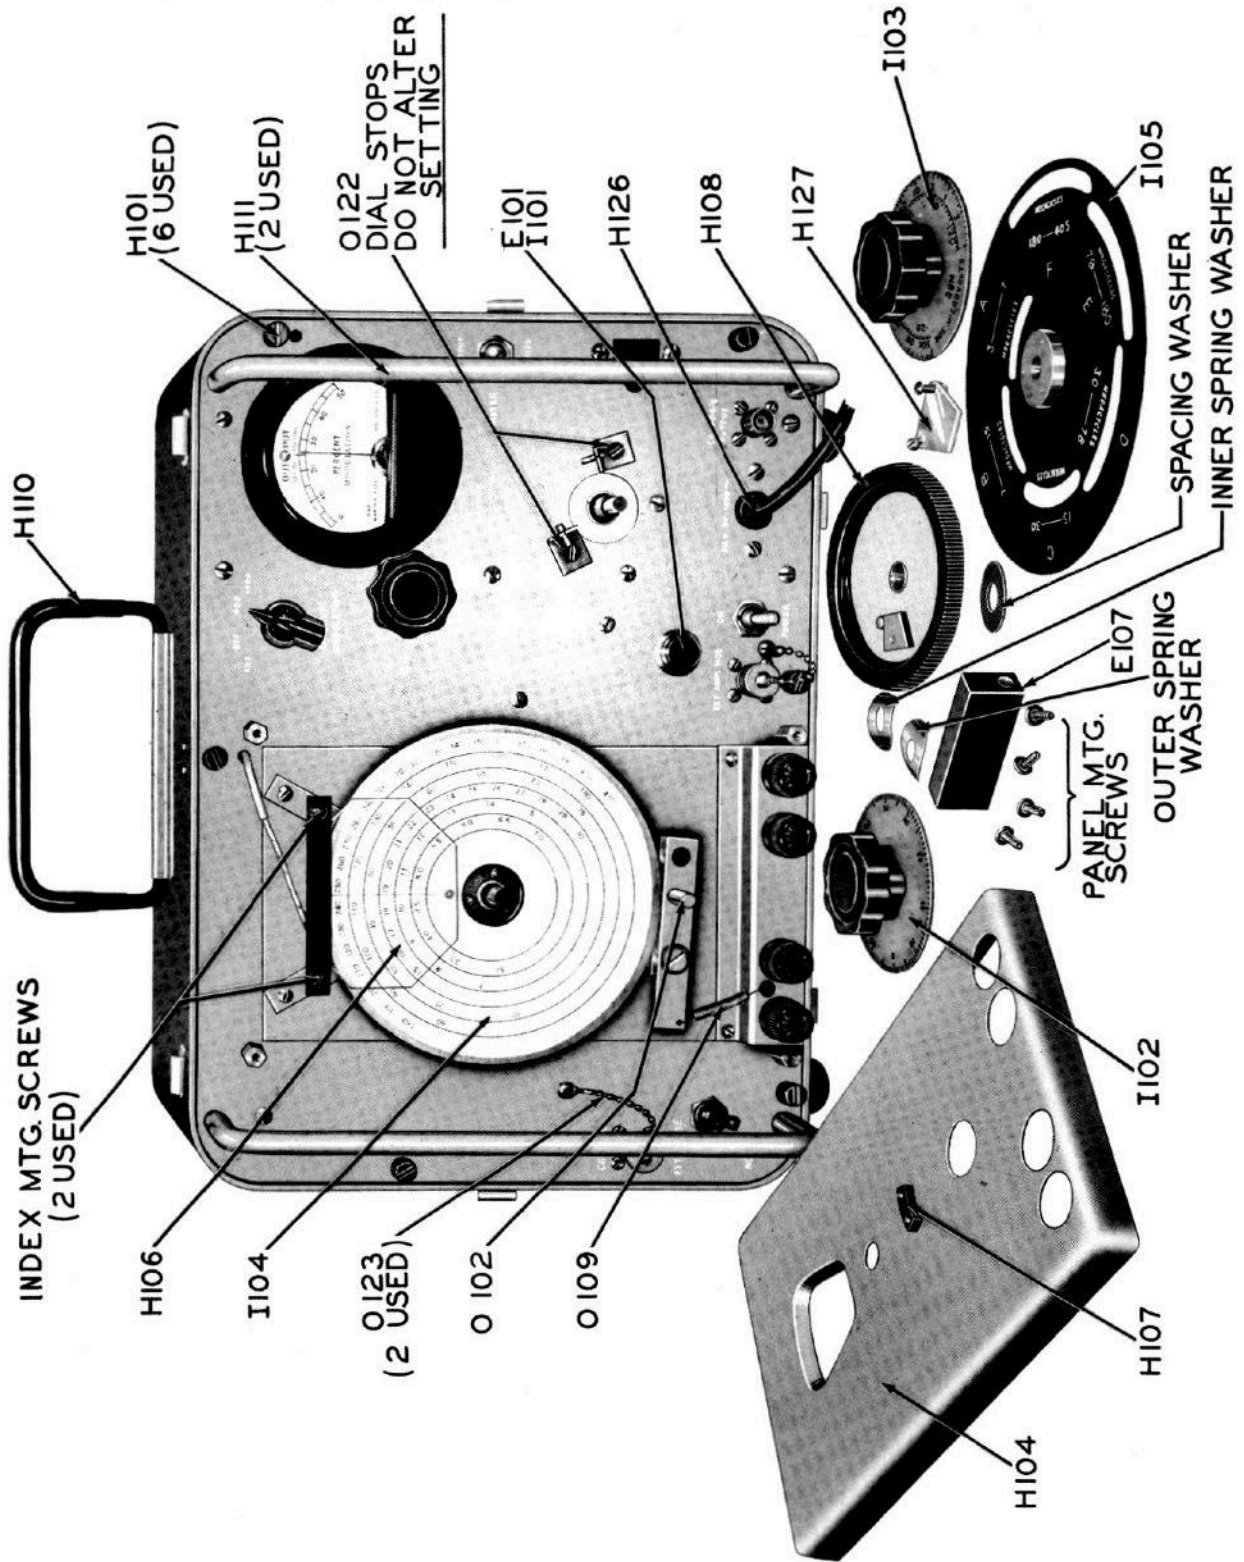

Figure 7-9. RF Signal Generator SG-45A/URM-26, Partial Disassembly, Front Panel
- (1) Loosen the two #10 Allen set screws which secure tuning dial I-102 and remove dial from shaft.
- (2) Loosen the two #10 Allen set screws which secure RANGE knob E-107 and remove knob.
- (3) Remove four screws holding dial cover H-104, see figure 7-9, and remove cover.
- (4) Remove Dial Mask I-105. This mask is secured to shaft by two #4 Allen set screws.
(5) Loosen three screws which secure frequency dial, rotate dial as required to correct observed frequency error then retighten screws.
(6) Recheck calibration at low- and high-frequency ends of F range.